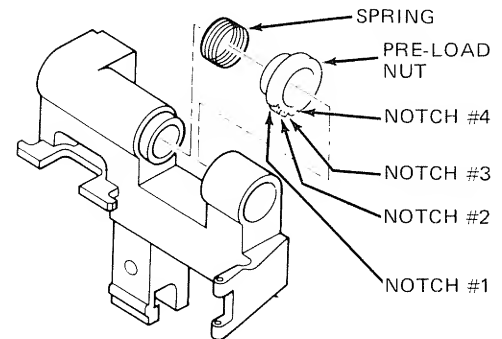

FIGURE 8 CARRIAGE ASSEMBLY
- h. If installing a new carriage, set the pre-load nut in the #2 notch. Reference Figure 8.